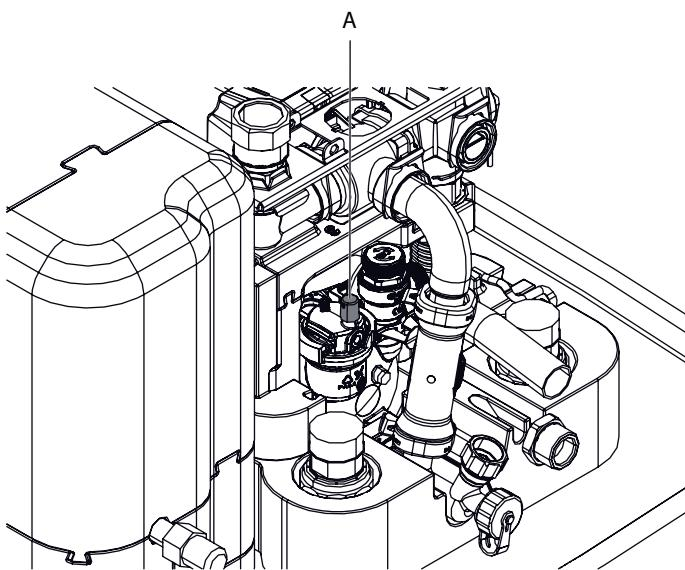

Fig. 5-3 Cap on the automatic venting unit
- Make sure that the cap on the automatic venting unit is open (fig. 5-3, item A).